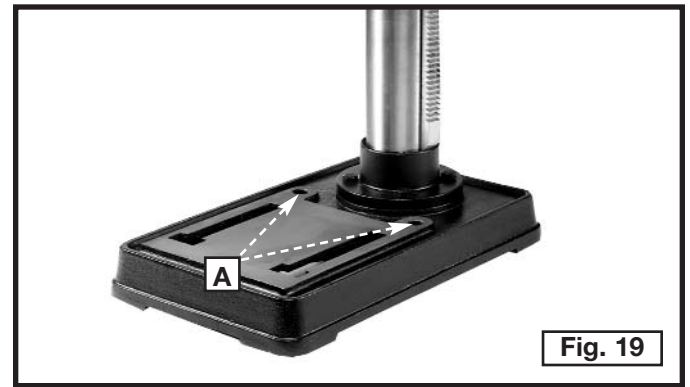

Fig. 19
If, during operation, the machine has a tendency to tip over, slide, or walk on the supporting surface, secure the machine base to the supporting surface with an M8x1.25x125mm carriage head screw, 8.5mm flat washer, 8.5mm lock washer, M8x1.25 hex nut through the two holes (A) Fig. 19 located in the machine base.